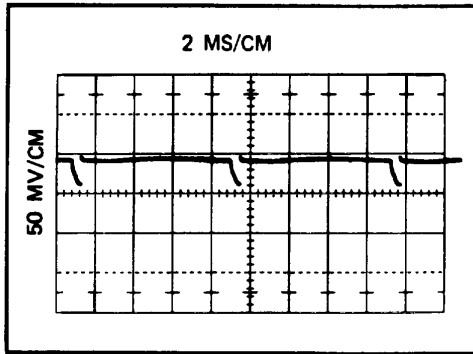

Figure 4-17. PRE-REGULATOR Q1, WAVEFORM ON OPR
- f. Set the POWER switch to OPR. The waveform should appear as shown in Figure 4-17.